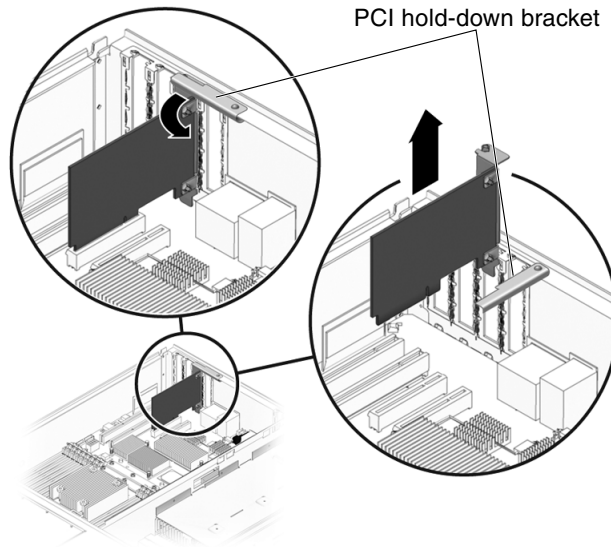

FIGURE 5-7 PCI Card and Hold-Down Bracket
5. Rotate the PCI hold-down bracket 90 degrees so it no longer covers the PCI card (FIGURE 5-7).